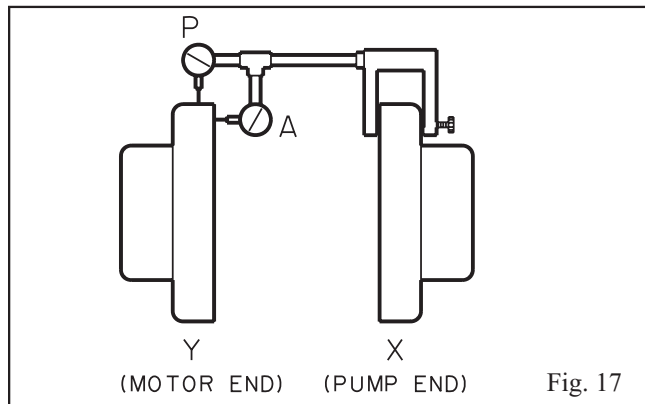

Fig. 17
1. Mount two dial indicators on one of the coupling halves (X) so they contact the other coupling half (Y) (Fig. 17).